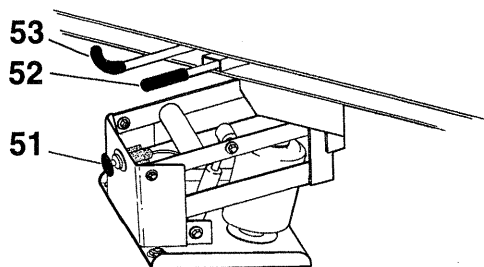

Fig. 3-16 Seat Adjustment Controls
51. Seat Height Adjustment Control See Fig. 3-16
Locks seat in forward facing position. See Fig. 3-16
See Fig. 3-16